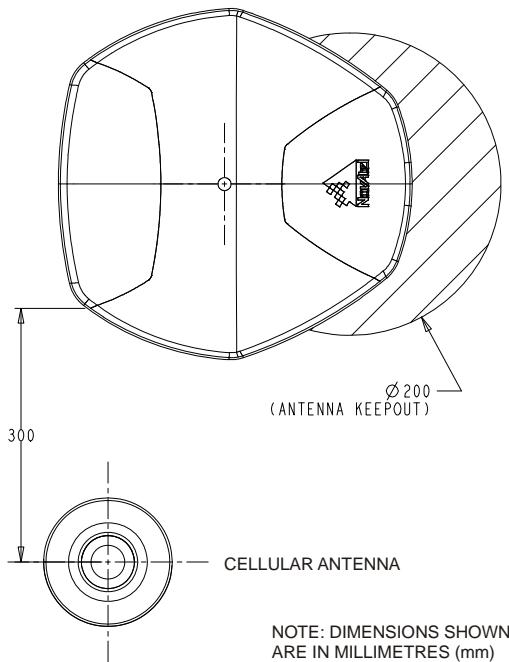

Figure 9: Cellular Antenna Placement
2. Ensure the cellular antenna is installed at least 30 cm away from the SMART-MR15, as shown in *Figure 9*. GNSS positioning accuracy may be degraded if this is not observed, particularly for operation in the EU “1800 MHz” band.
3. Ensure the cellular antenna is installed at least 20 cm away from the *Bluetooth* antenna area of the SMART-MR15, as shown in *Figure 9*.